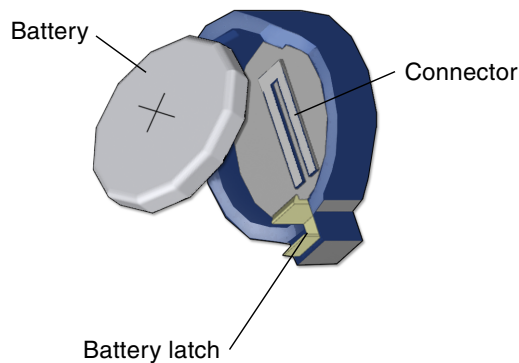

FIGURE 11-23 Installing the Battery
3. Install the battery (FIGURE 11-23).